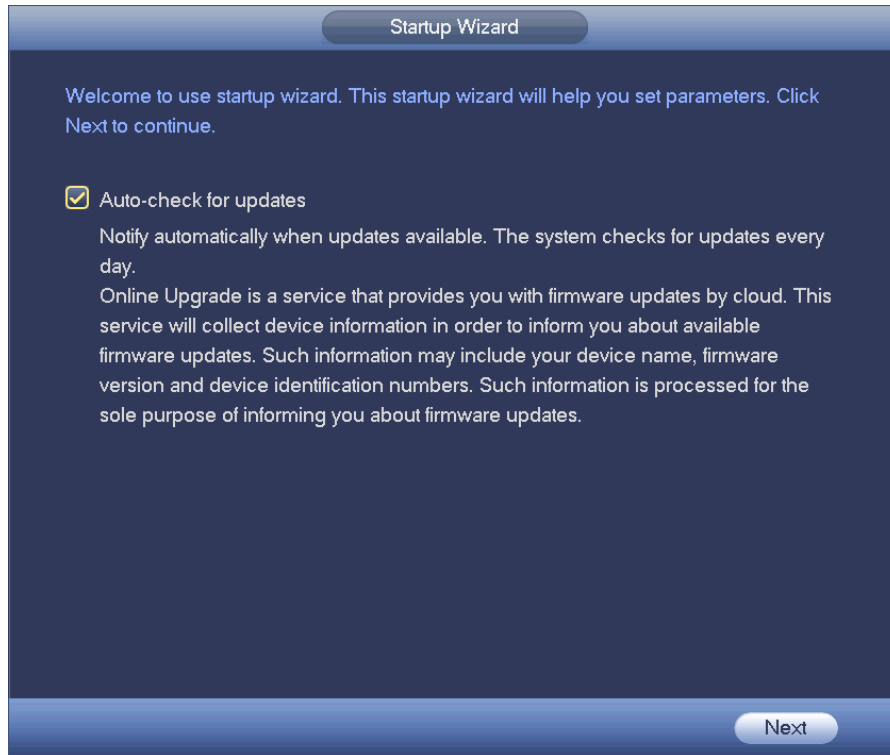

Figure 4-12
- Startup wizard: After initialize the device, system goes to the End-User License Agreement (EULA) interface. Check the box to agree the EULA. Click Next button to enter startup wizard if it is your first time to login. See Figure 4-12.